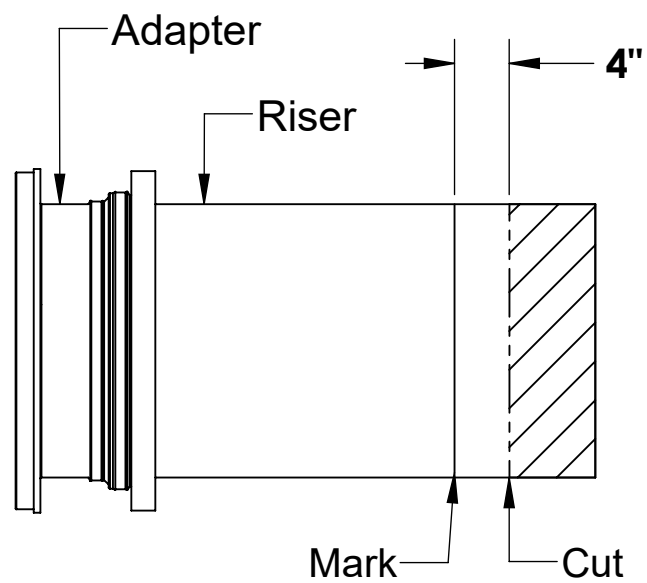

Figure 3
7. Whether the riser needs to be cut or not, make another mark with the silver marker on the sidewall of the riser a distance of 4 INCHES above the edge just cut. If you did not make a cut (meaning your riser height + dimension from step 5 line was beyond the bottom edge of your riser), still mark the sidewall of the riser 4 INCHES above where your riser height + dimension from step 5 line would have been. DO NOT cut this new line. Once the riser is installed into the main unit, this new line will end up at the top of the gasket and will aid in re-assembly. See Figure 3.